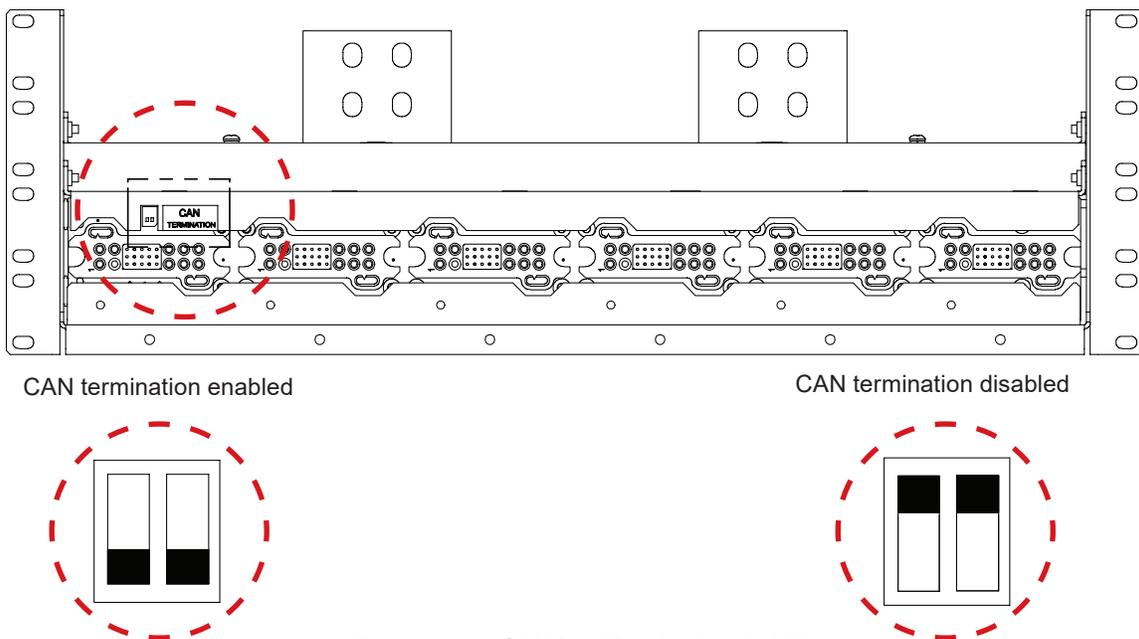

Figure 38 — CAN Bus Termination 4.0kW
- b. Flip the DIP switches from Termination Enabled to Termination Disabled—see Figure 38.